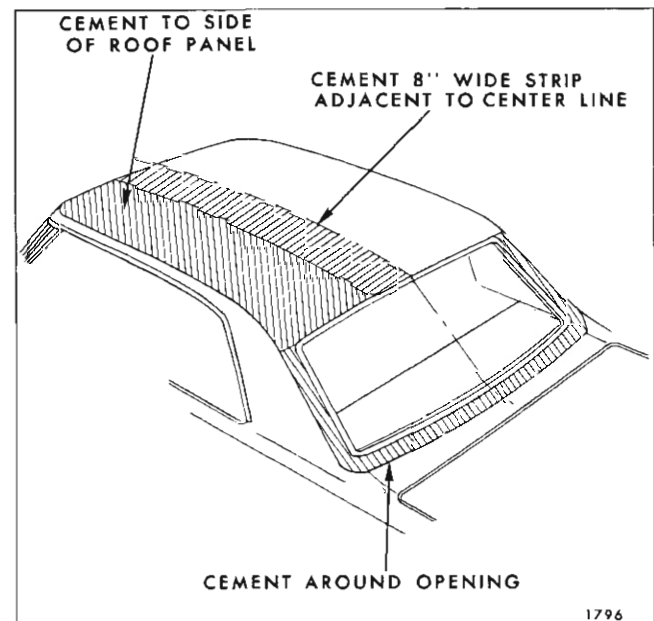

Fig. 2J8—Cementing Procedure for Fabric Cover
15. Position and install fabric cover around back window opening. (See Views "B" and "D", Fig. 2J6).